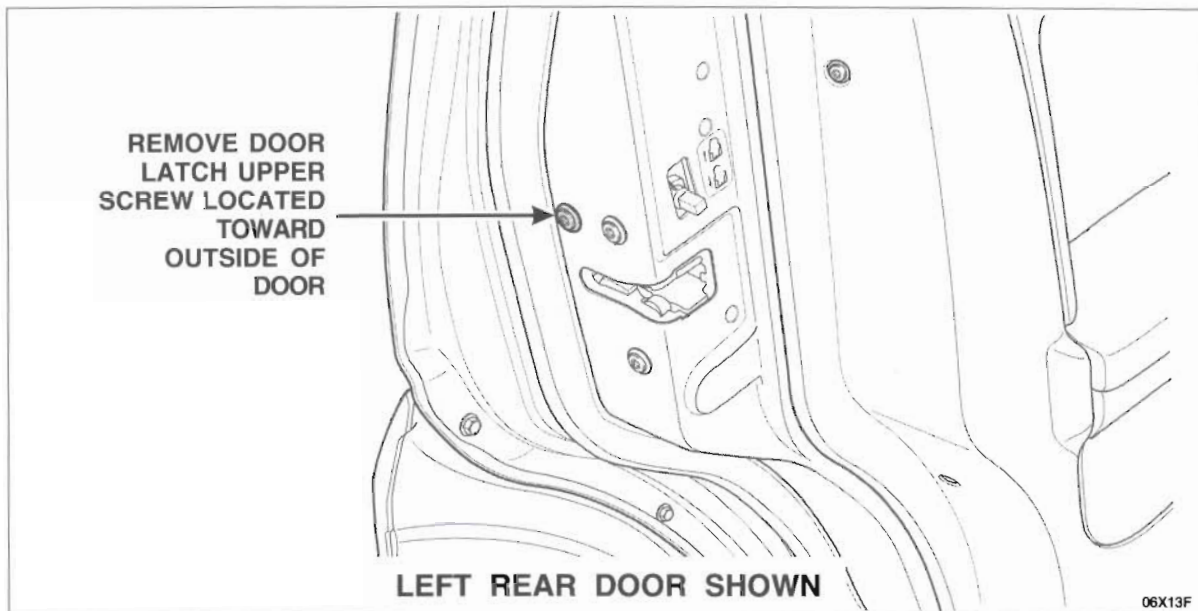

FIGURE 6
1. Remove the door latch upper screw located toward the outside of the door. See Figure 6.